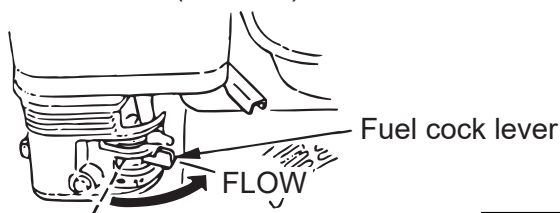

Fig. 13
1. Turn the lever of the fuel cock downward and feed fuel. (Figs. 13)